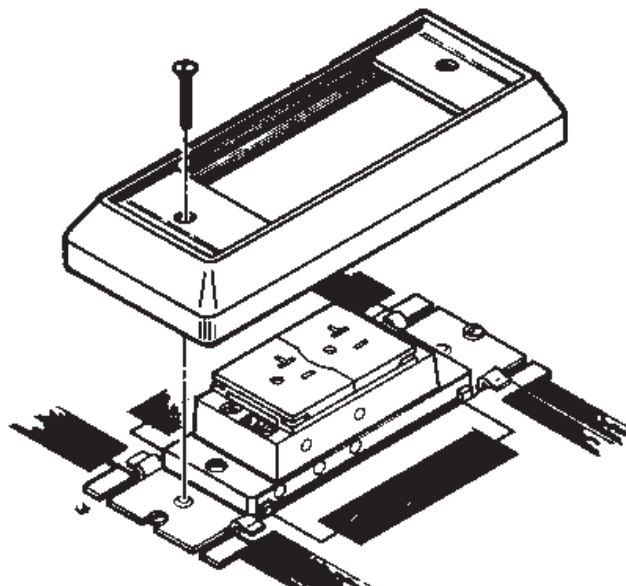

Figure 9
17. Place skirt over receptacle and secure it to the mounting plate with the screws provided. See Figure 9.